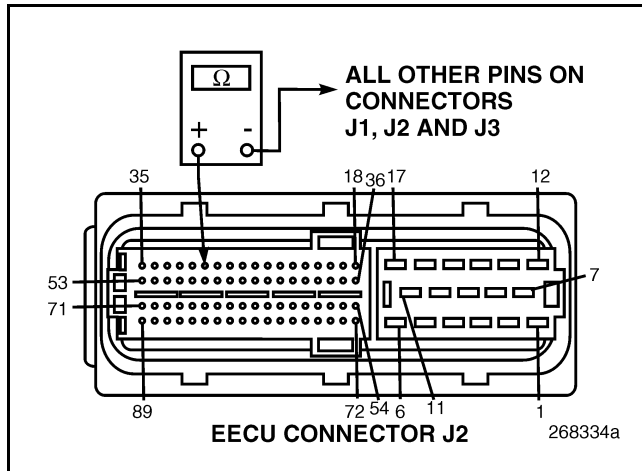

Figure 338
4. Check for continuity between EECU harness connector J2 pin 30 (reference voltage line) and all other pins in EECU harness connectors J1, J2, and J3 (see Figure 338).